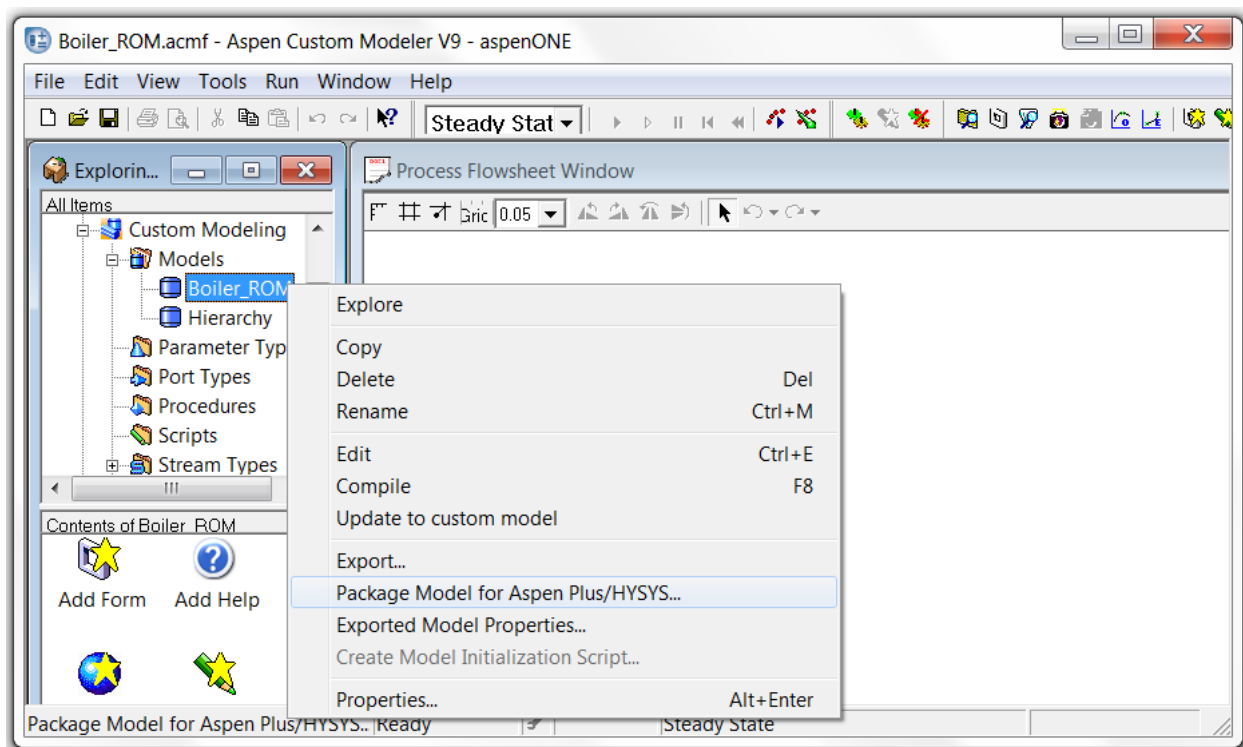
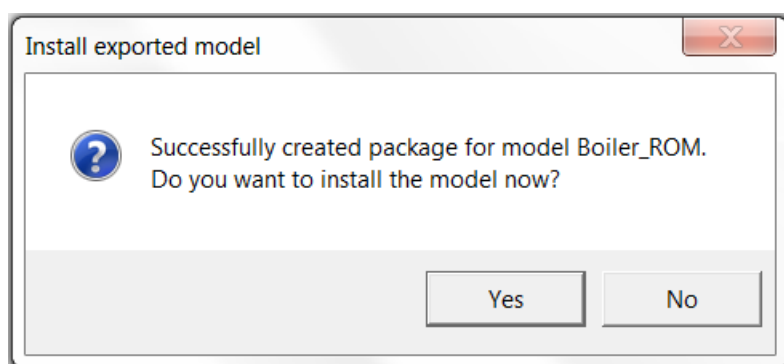

Figure 2: Package ROM Model in ACM Window
Figure 3: Install Exported Model Dialog
2. Open the “Boiler_ROM.acmf” file by double-clicking the file. The ACM main window displays. A message indicating no errors will be displayed in the “Simulation Messages” window. Expand the “Custom Modeling” branch in the “Exploring – Simulation” window inside the main ACM window. Then expand the “Models” branch. The “Boiler_ROM” item is listed as shown in Figure 2. Note: This model can be used immediately to form a steady-state flow sheet model if ACM is used to simulate a system containing the ROM.
3. If the ROM will be used in Aspen Plus, the remaining steps are needed. Right-click the “Boiler_ROM” item and then select the “Package Model for Aspen Plus/HYSYS...” pop-up menu as shown in Figure 2. An “Export” dialog window displays, enabling the user to specify a folder to which the package file “Boiler_ROM.atmlz” resides. The user can accept the default folder and then click “Save” to save the file. Then another pop-up window as shown in Figure 3 displays, asking you to install the model. Click “Yes” to install the model. The “Boiler_ROM.atmlz” will be copied to “C:\Users\user_name\AppData\Local\AspenTech\AES\AM Models\35.0” directory such that the Aspen Plus can load it. Note: It is assumed that Aspen packages are install in C: drive and “user_name” represents your user name on the computer. Close ACM window.